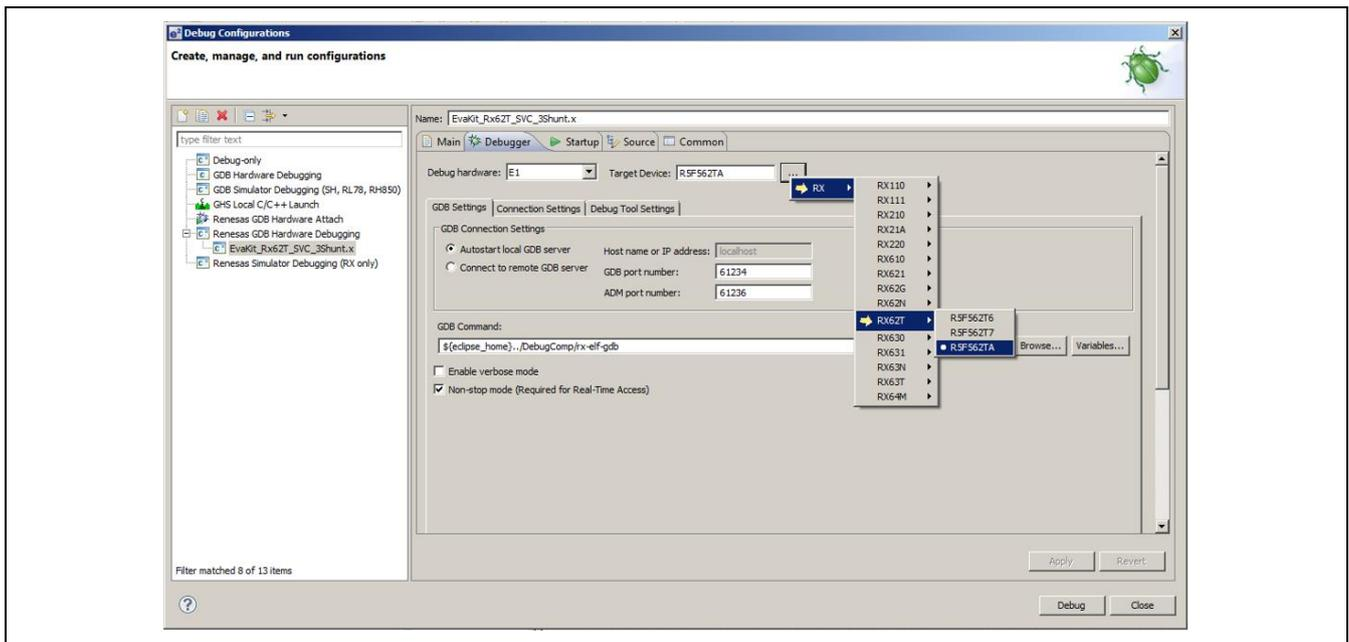

Figure 26 Debug Configuration Debugger Dialog Box
- Step 4.** Select the “Debugger” tab as shown in Figure 26.